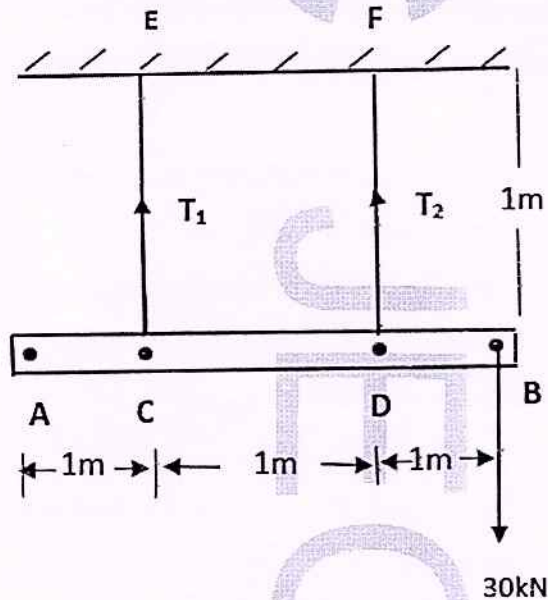

Fig.2
- 12 A rigid bar ABCD is hinged at A and supported in a horizontal position by two identical steel wires as shown in Figure 2. A vertical load of 30kN is applied at B. Find the tensile forces T_1 and T_2 induced in these wires by the vertical load. 14